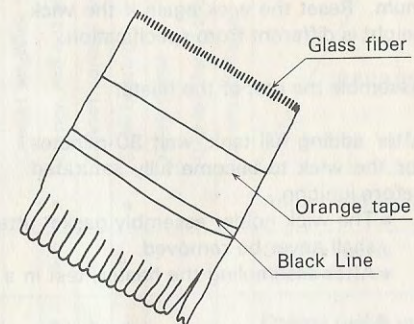

Fig. 24
- (9) The upper part of the wick is made of glass fiber and does not burn. Other portion of the wick is made of cotton. The orange tape is for fixing the wick to the wick holder and the black line marked on the tape is for positioning (Fig. 24).